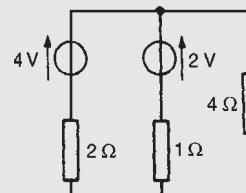

Figure 13.56
Problem 14. Use Norton's theorem to determine the current I flowing in the 4Ω resistance shown in Fig. 13.56
- (iv) From the Norton equivalent network shown in Fig. 13.56(b) the current in the 4Ω resistance is given by: